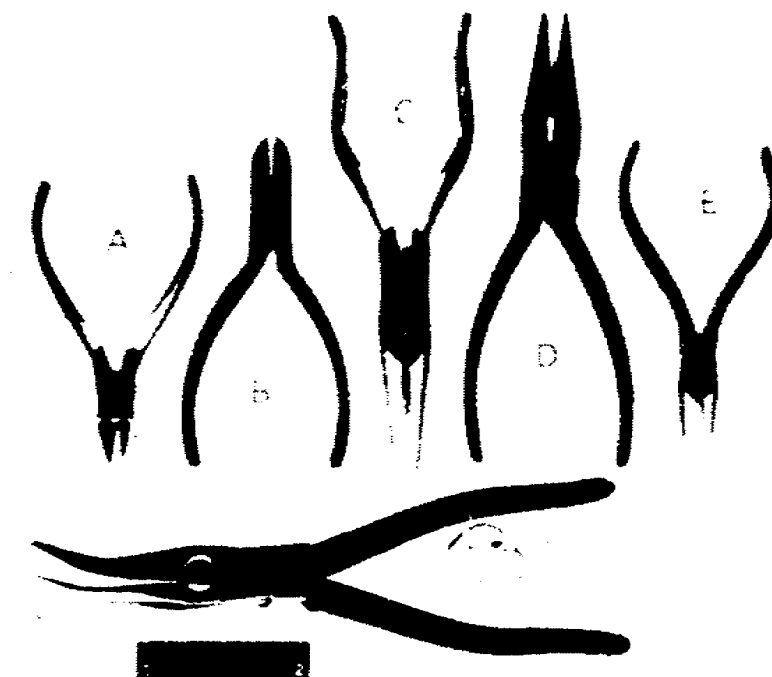

Figure 4. Pliers in a TK-105/G.
- (4) Pliers in a TK-105/G. Figure 4 shows the various pliers that come in a Tool Kit TK-105/G. Items A and B are diagonal cutting pliers. Used for cutting small gauge wires, these are commonly referred to as "diagonal cutters," "diagonals," or "dikes." Diagonal cutting pliers are made in several sizes for electronic work, and range in sizes from the 8-inch length to the 4-inch length. Items C and D are round needle-nose pliers with wire cutters. Item E is a 4-inch round chain-nose or short-nose pliers without cutter. Item F is a curved, round needle-nose pliers with wire cutter; the one illustrated has plastic-coated handles. Item G is a small, slip-joint pliers commonly referred to as ignition pliers; this tool came in the box of sockets shown in figure 7.